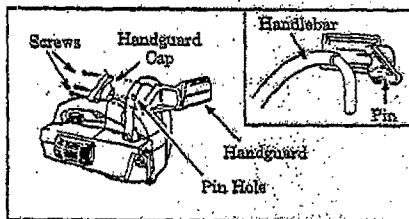

Figure 6
- Align the handguard and handguard cap around the handlebar as shown in Figure 6.
- Fit the mounting pin on the handguard into the pin hole in the handlebar. Figure 6 (inset).